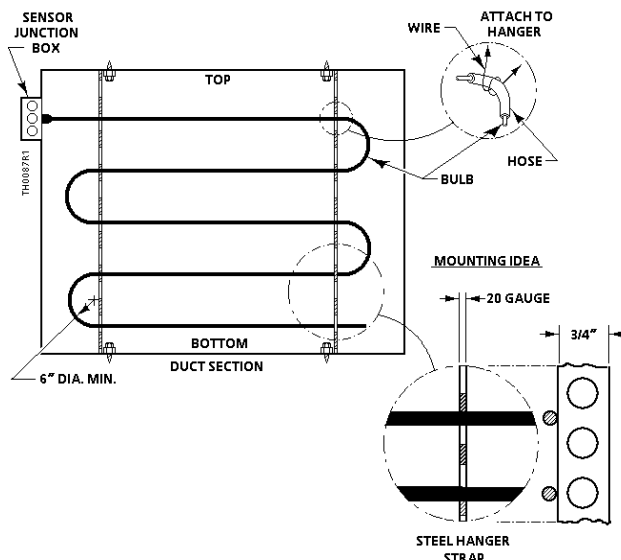

Figure 2 Large Walk-In Duct Mounting Option.
Required for walk-in duct mounting option (Figure 2):
NOTE: The duct sensing element should be mounted in a horizontal, serpentine manner as shown in Figures 2.
1. Position and mark the screws holes for the two or more steel straps, as shown in Figure 2